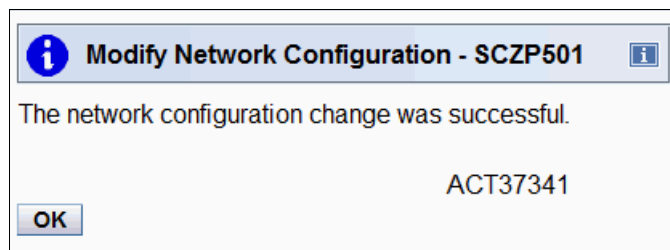

Figure 9-52 System (Sysplex) Time: The network configuration change was successful
- Assigning PTS is completed. The Modify Network Configuration panel opens (Figure 9-52). Click **OK**.